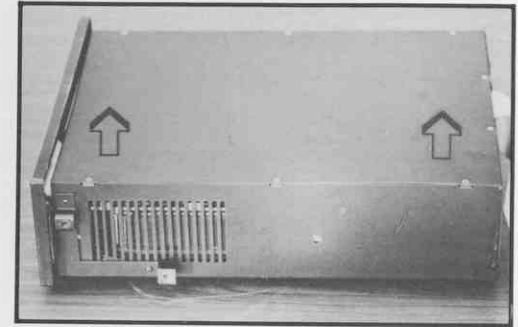

Figure 66 Inner Cover Removal
- 4.46 Lift the inner cover off the Subsystem unit (Figure 66).